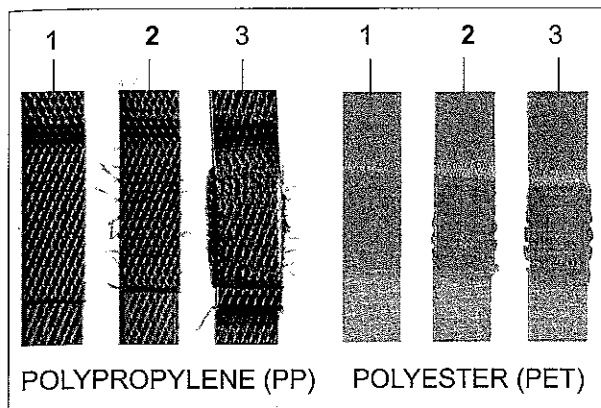

Fig. 12 Checking of seal
- Check appearance of seal (see fig. 12) regularly. If the straps are poorly welded, **check the welding time setting (refer to chapter 6.3.3).**